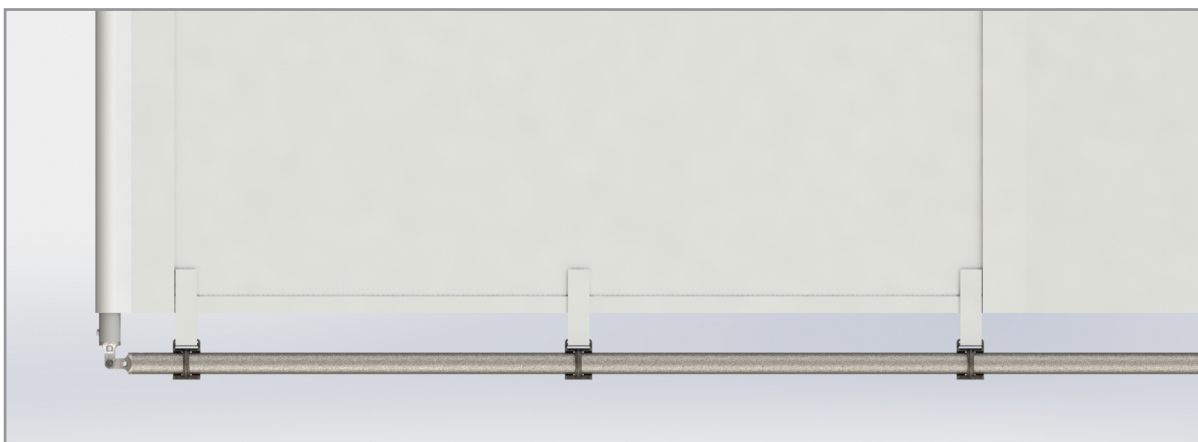

Fig.18
5. Align the six cam locks with the corresponding webbing loops on the canvas (**Fig.18**).